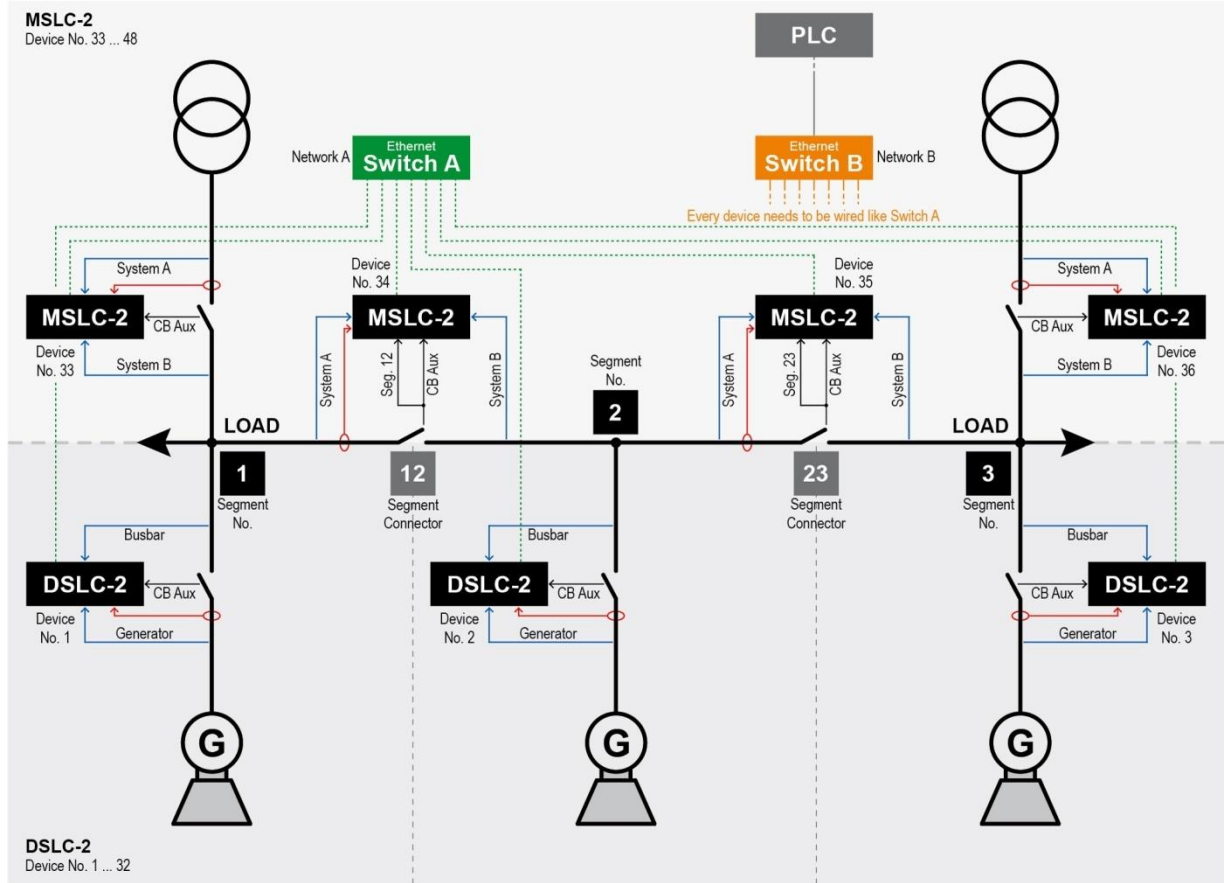

Figure 3-120: Example of an online diagram with all required information to setup the units
7. You can optionally draw the current measurement and the amount of phases in your online diagram (refer to Figure 3-120). Please consider following rules (for a better overview and understanding):